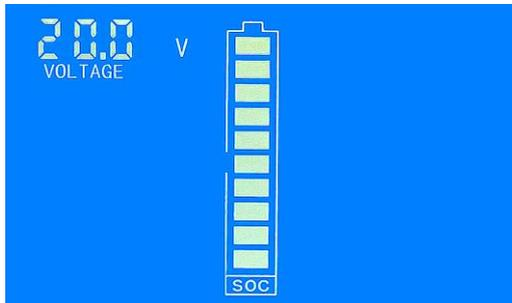
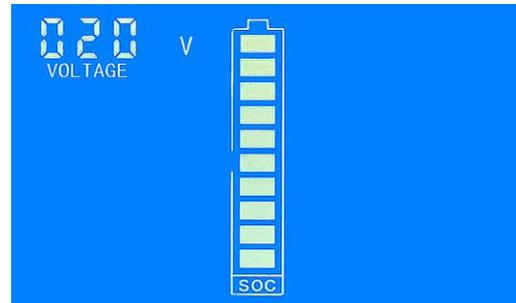

Figure 3: full voltage setting interface (low bit)
Figure 4: full voltage setting interface (high bit)
Step 2: SET character blink present it is the setting status of full / cut-off voltage, long press the button until the LCD screen displays the interface like fig. 3, then release the button.
Step 3: At this time, the battery symbol displays full grids energy means the full voltage setting status, factory default the full voltage is 020.0V, the numerical code circulation flashing from the low bit to the high bit shows that the current setting digit, short press to set the digit; please pay attention that, as the full voltage setting value has 4 digits, but the numerical code has only 3 digits, so the setting is divided into two parts: low bit (fig. 3) + high bit (fig. 4). For example, the default full voltage is 020.0V, then the display state is 20.0V to 020V low and high cyclic switching display. If you need to set the full voltage is 199.0V, then please set the low bit to 99.0V, when the cycle reaches the high bit, it will display 099V, and only the highest zero bit flickers to prompt it can be set. Setting the high bit to 199V represents the full voltage is 199.0V.